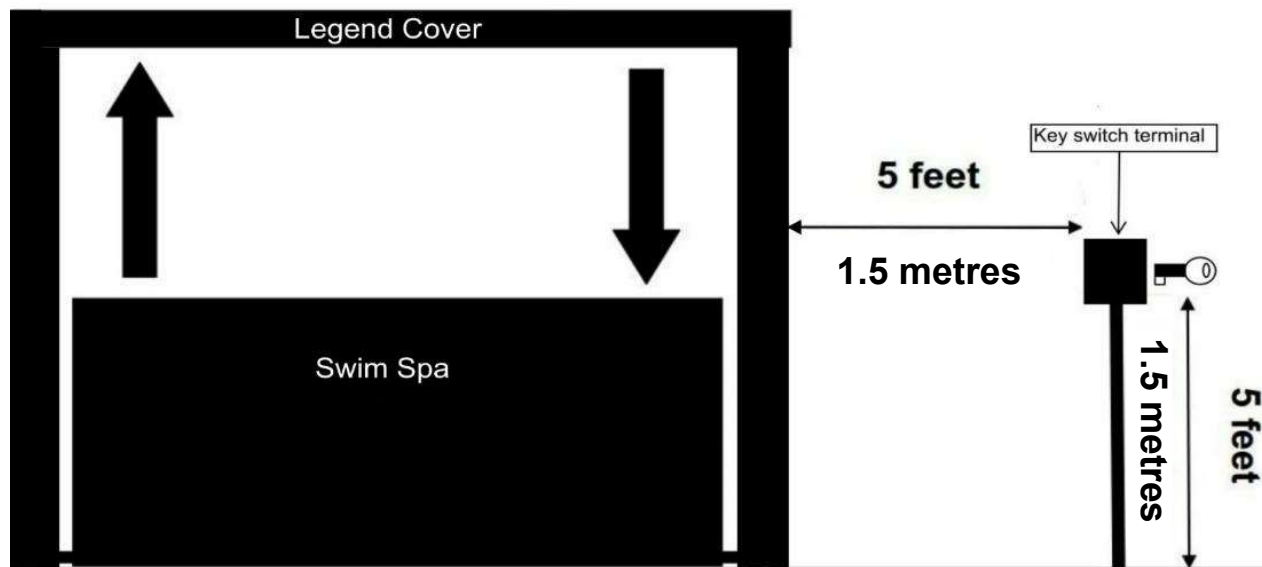

Figure 31
- ♦ The key switch must be permanently mounted and located 5' (1.5 m) away from the swim spa and 5' (1.5 m) above the deck or ground level. Ensure the user has a clear view of the COVANA cover when operating it. Furthermore, the key switch terminal should be located in a place where no water and no debris could fall on it from another rooftop (Figure 31).